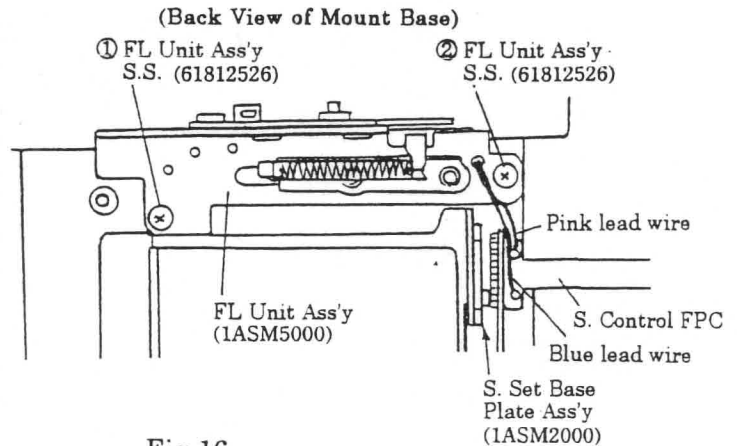

Fig.16
- 2) Unsolder the Pink and Blue lead wires (from FL Board) on the S. Control FPC. (See Fig. 16)
- 3) Tighten the FL Unit Ass'y Setscrews (61812526) \times 2 in the numerical order as shown in Fig. 16.